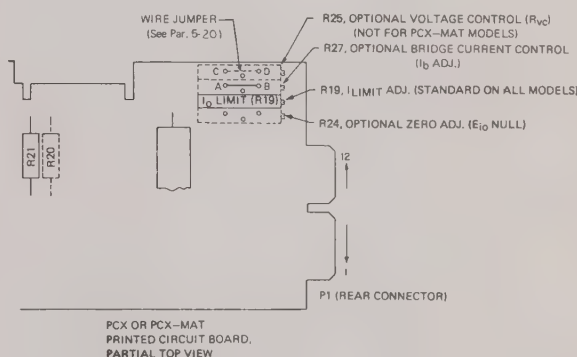

FIG. 5-2 LOCATION OF MOUNTING SPACES FOR OPTIONAL CONTROLS
5-7 Models ordered with these controls factory installed bear the suffixes "R" (for R27), "E" (for R24), or a four place suffix "8000" (for R25). The installation instructions may be disregarded for these models. DISCONNECT POWER SUPPLY FROM THE AC INPUT POWER SOURCE. Before installation, remove the printed circuit board as described in paragraph 5-3. Locate predesignated spaces for the controls by referring to FIG. 5-2. Proceed as directed in the applicable paragraphs below.
- b) Insert 1 K ohm in the space outlined on FIG. 5-2. Solder in place and turn R27 to its approximate midposition. Reinstall the circuit board, and return power supply to the plug-in adaptor.
- c) Install a precision resistor (R_{vc}) across barrier-strip terminals (4) and (9) and connect a precision voltmeter across the output terminals (5) and (6).^{*} Since the bridge current (I_b) is a nominal 1 mA, and the control ratio is 1 K ohm/V, the output voltage E_o will be approximately equal to E_o = I_bR_{vc}. (i.e., for each 1000 ohms of voltage control resistance [R_{vc}], one volt of output voltage will appear across the output terminals.)
- b) Locate appropriate space on the printed circuit board (refer to FIG. 5-2), remove the wire jumper, and solder the selected rheostat in place. The value of the rheostat will depend on the desired output voltage, i.e., for each 1000 ohms of resistance, 1 volt of output will be produced.
- b) Locate R19 (Refer to FIG. 5-2) Slowly turn the control counter clockwise until a sharp increase in output ripple is observed, indicating the operation of the power supply in the current limit mode. Set control slightly clockwise again until the output ripple appears just normal again.